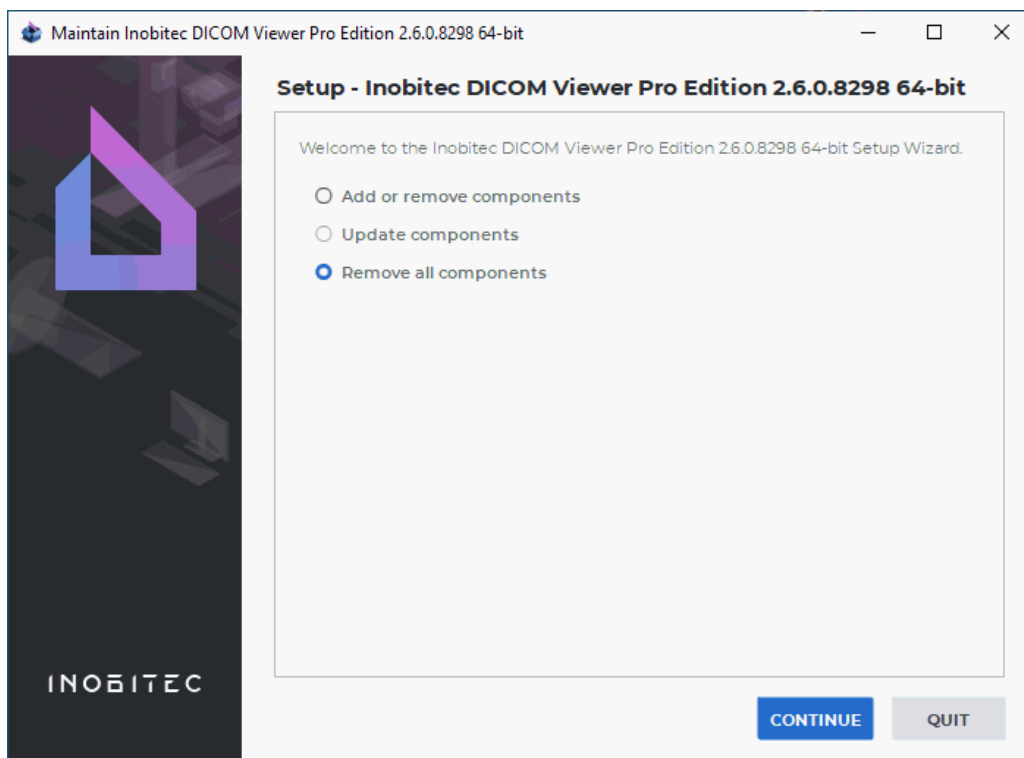

Figure 12: Beginning of the uninstallation
2. Make sure that the item **Remove all components** is selected in the window shown in Fig. 12 and click the **CONTINUE** button.